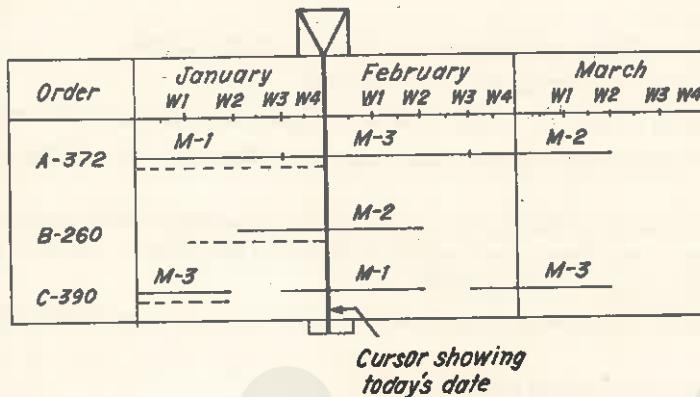

Fig. 7.30. Order control Gantt chart.
- (1) Plans for future,
- (2) Progress on present operations,
- (3) Past achievements till date,
- (4) Relationship among several variables,
- (5) It focuses attention on situations threatening delays,
- (6) It tells whether a plan has fallen short and if the delivery dates can be met, and
- (7) A cursor attached to the Gantt chart (See Fig. 7.30) can be moved across the chart to know the work progress till any particular day.
(i) **Order Control Chart.** Time (in weeks/days) is marked along the horizontal axis and orders in hand are listed along the vertical axis (See Fig. 7.30). The amount of work planned or scheduled is shown by the firm line and the machine on which the order will be processed is marked on the line. The actual progress of various orders is shown dotted. Cursor placed at today's date indicates that order A-372 is going as per schedule. Work on order B-260, started one week before the schedule (starting) date and it is about 70% complete which otherwise would have been only 50% as per the plan. Thus order B-260 is